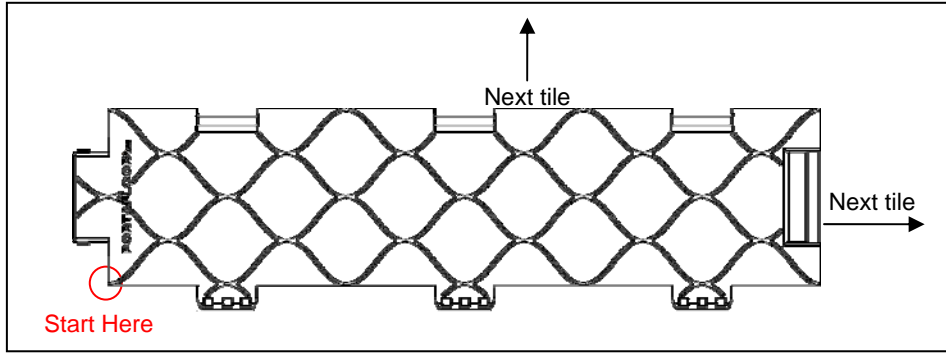
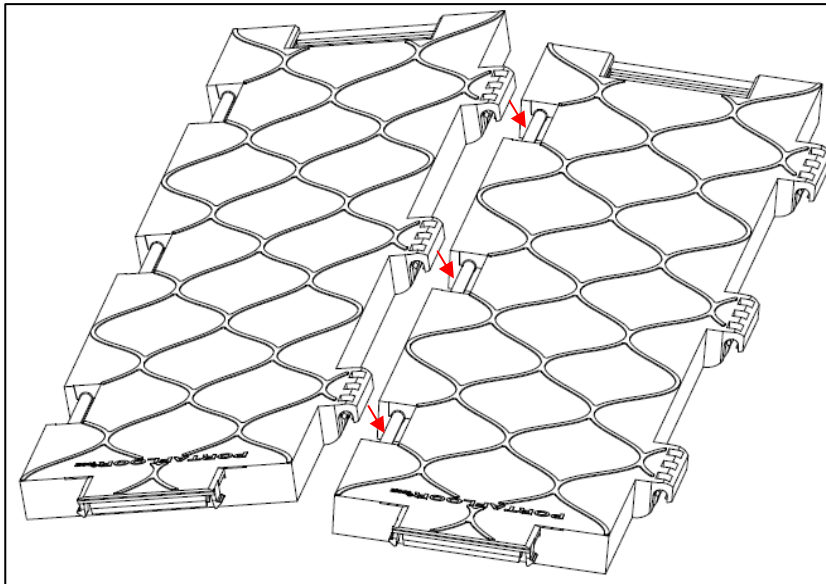

Figure 2
Figure 3
1. Establish a starting point for the installation. The first tile should be placed with the slots facing the installation direction (see Figure 2 below). Subsequent tiles will snap into the first by placing the tabs in the slots (Figure 3).